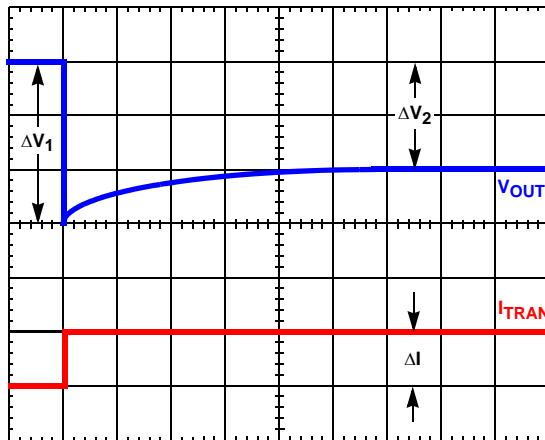

FIGURE 21. TIME CONSTANT MISMATCH BEHAVIOR
Due to errors in the inductance or DCR it may be necessary to adjust the value of  $R_1$  to match the time constants correctly. The effects of time constant mismatch can be seen in the form of droop overshoot or undershoot during the initial load transient spike, as shown in Figure 21. Follow the steps below to ensure the R-C and inductor L/DCR time constants are matched accurately.
2. Record  $\Delta V_1$  and  $\Delta V_2$  as shown in Figure 21.